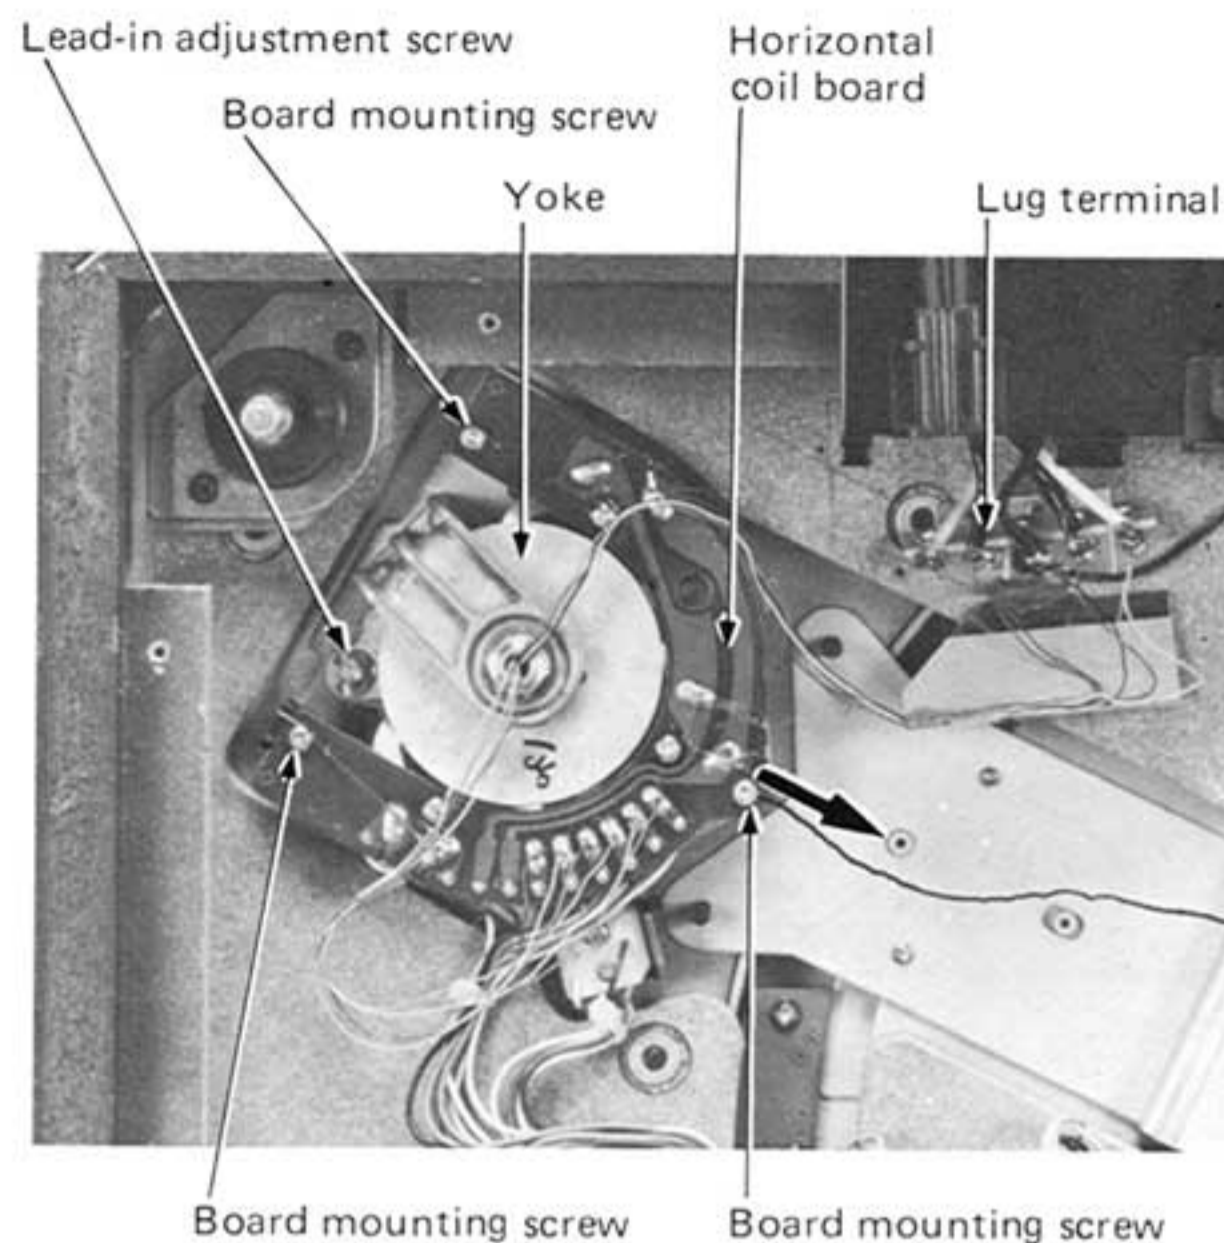

Fig. 20
## 8-(4) Removal of horizontal coil P.C. board (Fig. 20)